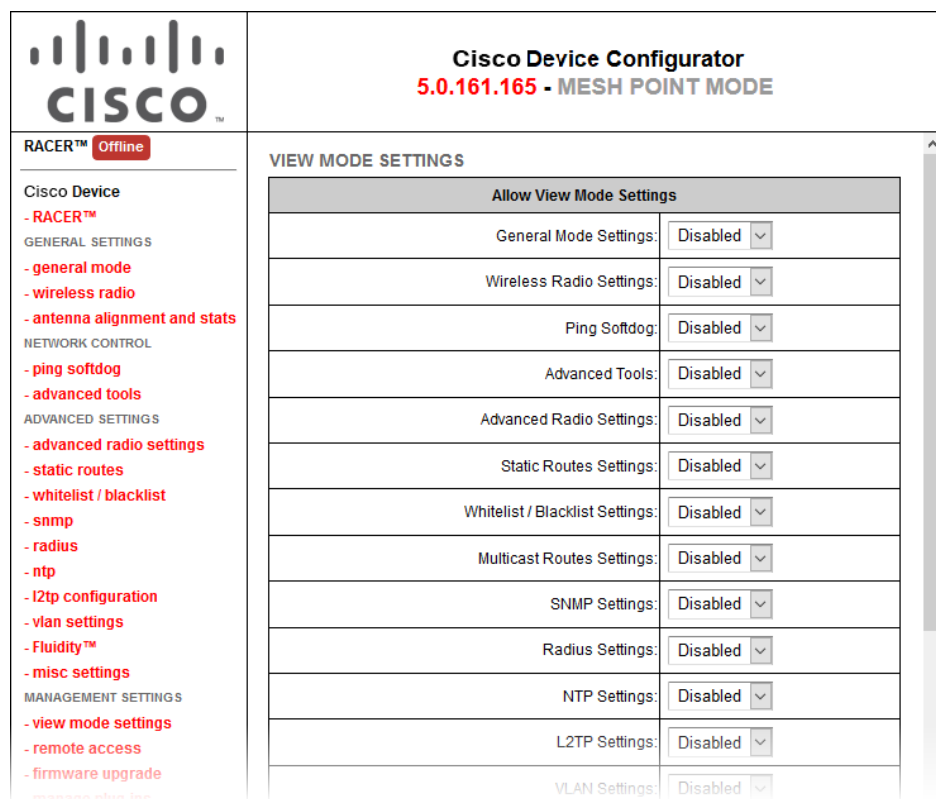

Figure 45. Configurator GUI (VIEW MODE SETTINGS dialog)
2. Click the **-view mode settings** link under **MANAGEMENT SETTINGS** in the left-hand settings menu (Figure 45 \(page 92\)).